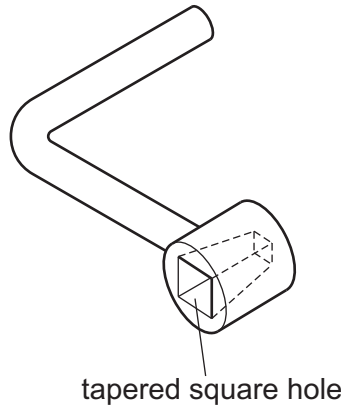

Fig. 10.2
- (iii) Fig. 10.2 shows a cranked handle that can be fitted to the square taper on the end of the shaft allowing the shaft to be turned.
- (v) Use sketches and notes to show how the mechanical advantage and efficiency of the cranked handle in Fig. 10.2 could be increased.